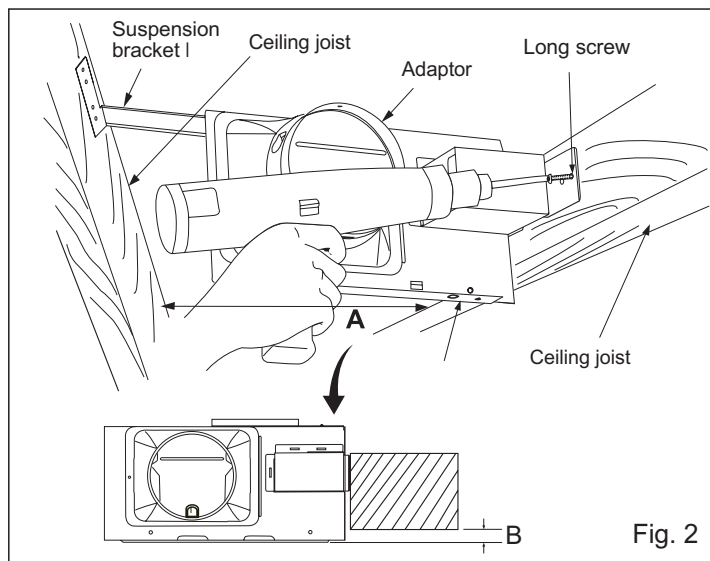

Fig. 2
2. Remove adaptor from body and secure to ceiling joists using long screws (M4x30). Make sure the adaptor is level and square (perpendicular) with the joists. (Fig.2)
3. Remove adaptor from fan body and secure to ceiling joists as in Fig.2 of page 5.